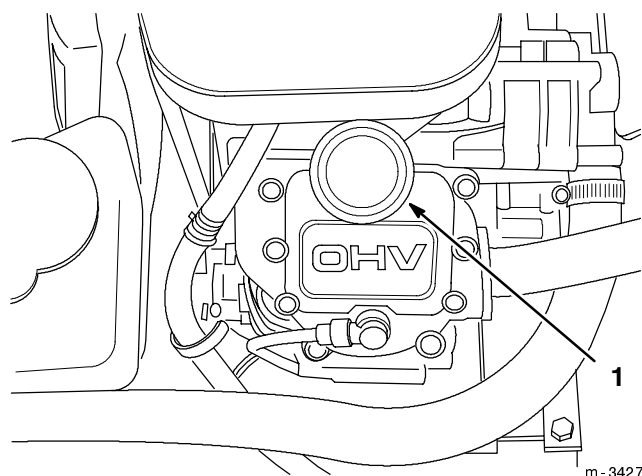

Figure 28
6. Remove the oil filler cap (Fig. 28) and refill the engine with a high-quality, API Service SG or SH engine oil (see viscosity chart).
7. Slowly pour approximately 80% of the specified amount of oil into the filler tube (Fig. 28). Now check the oil level; refer to Checking the Engine Oil Level, page 14. Slowly add additional oil to bring the oil level to the FULL mark on the dipstick.